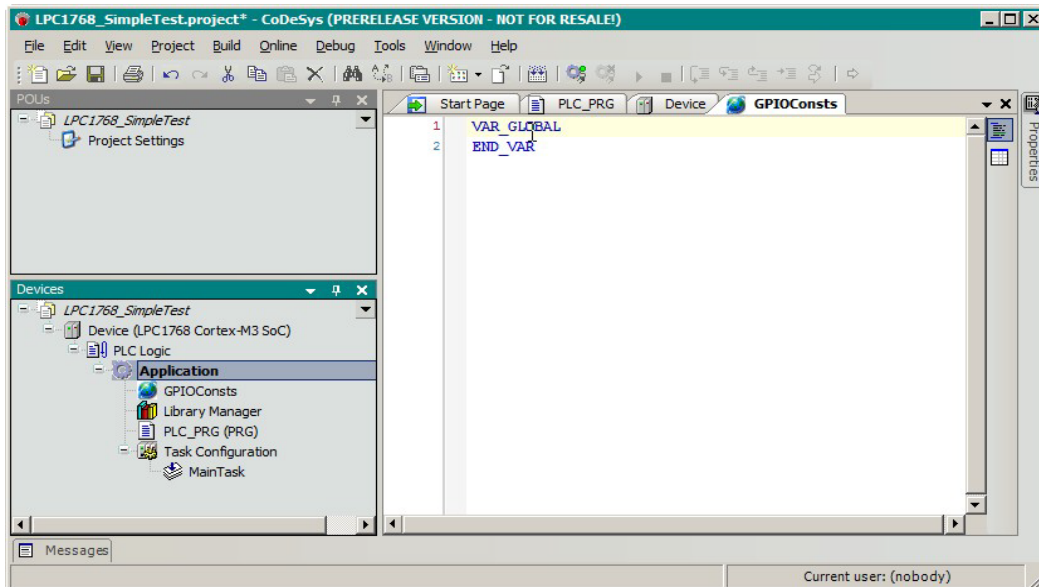

Figure 10. Monitoring variables in the demo project
3. Enter the name *GPIOConsts* in the *Name* field for the global variables list to be created and then click **Open**. The new global variables list will be displayed in the CODESYS main window as shown in Figure 10.